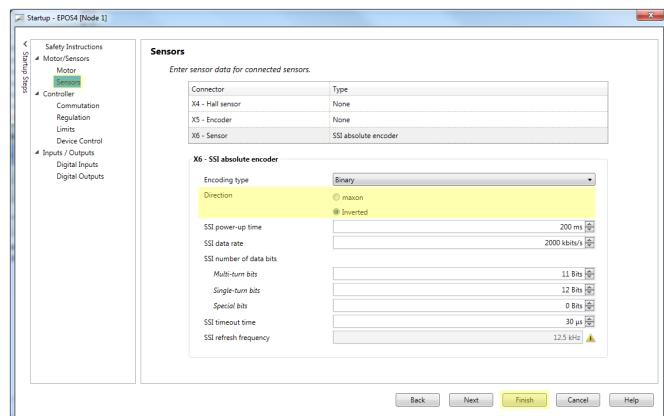

Figure 7-69 Adjustment of SSI commutation offset value | Toggle sense of rotation
- d) If the indication decreases, open the «Startup» wizard \ «Motor/Sensors» and select «Sensors». Toggle the sense of rotation by changing the active checkbox «Direction» (→Figure 7-69).